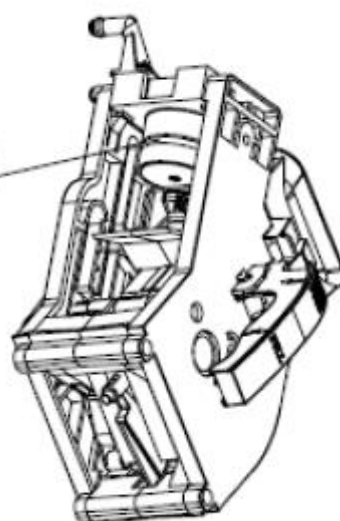
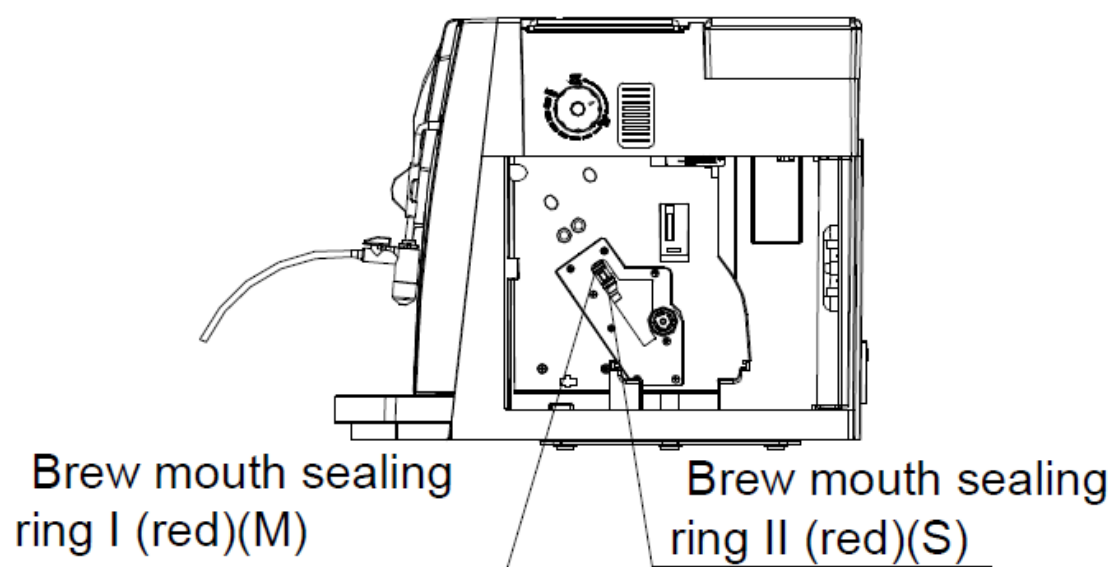

Fig.19
Fig. 20
15. The attached accessory bag include four sealing rings, they are parts which is easy to damage and standby parts (see Fig.18), two for the brewer assembly (see Fig.19), and the other two for the brew mouth (see Fig.20). Any of sealing rings on the brewer assembly or brew mouth is missed or damaged, you must replace it with corresponding sealing ring, the coffee machine will continue to work.